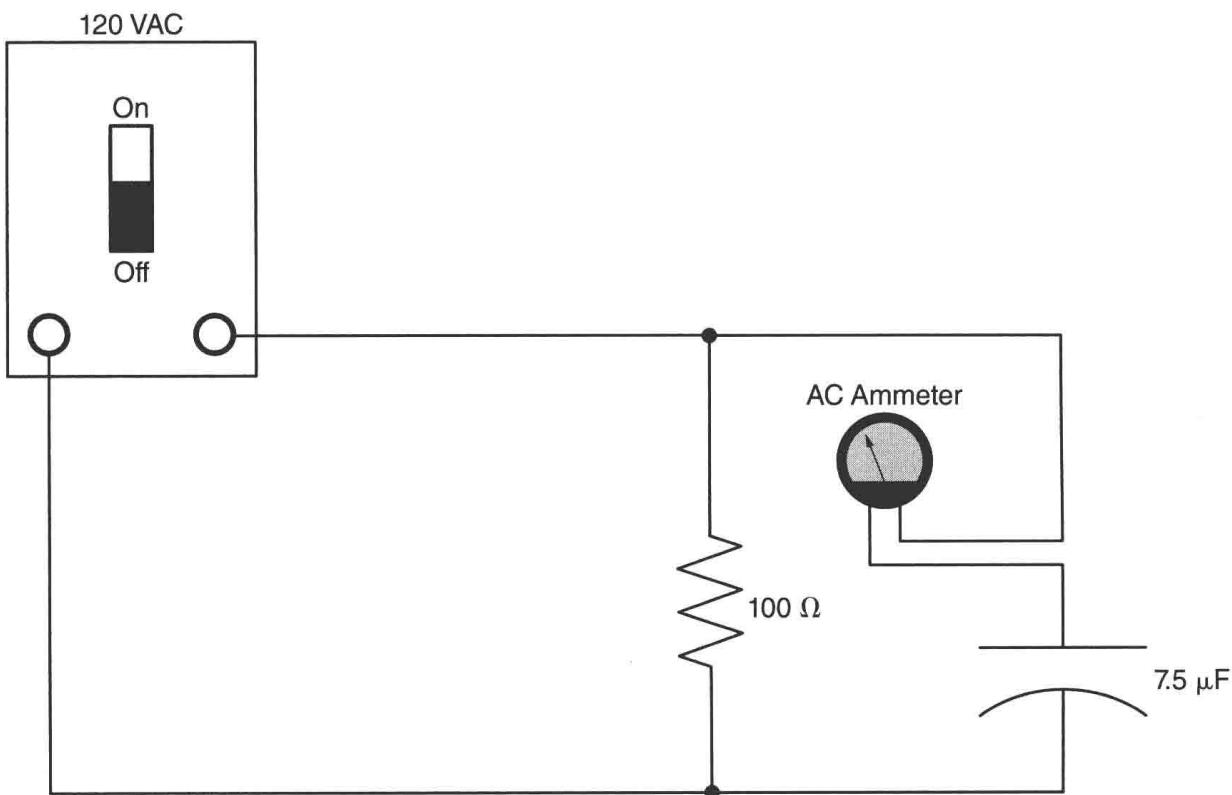

Figure 15-5 Measuring current through the capacitive load.
12. Reconnect the circuit as shown in Figure 15-5.
31. Reconnect the circuit to measure the current that appears to flow through the capacitor as shown in Figure 15-5.